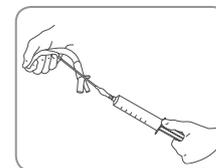

Fig 1: LMA Supreme™ deflation.
- ▶ A syringe of at least 50 ml should be used and held so that the inflation line is under slight tension; this facilitates smooth and complete deflation of the cuff as shown in Figure 1
- ▶ While deflating, hold the device so that the distal end is curled slightly anteriorly as shown in Figure 1